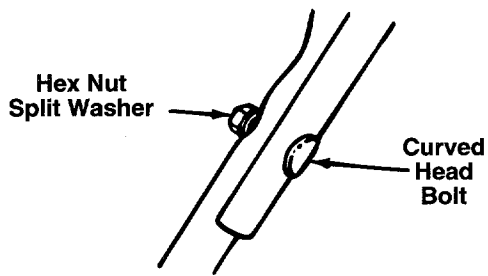

FIGURE 2.
- ← 2. Secure the upper handle to lower handle using the curved head bolts, split washers and hex nuts as shown in figure 2.